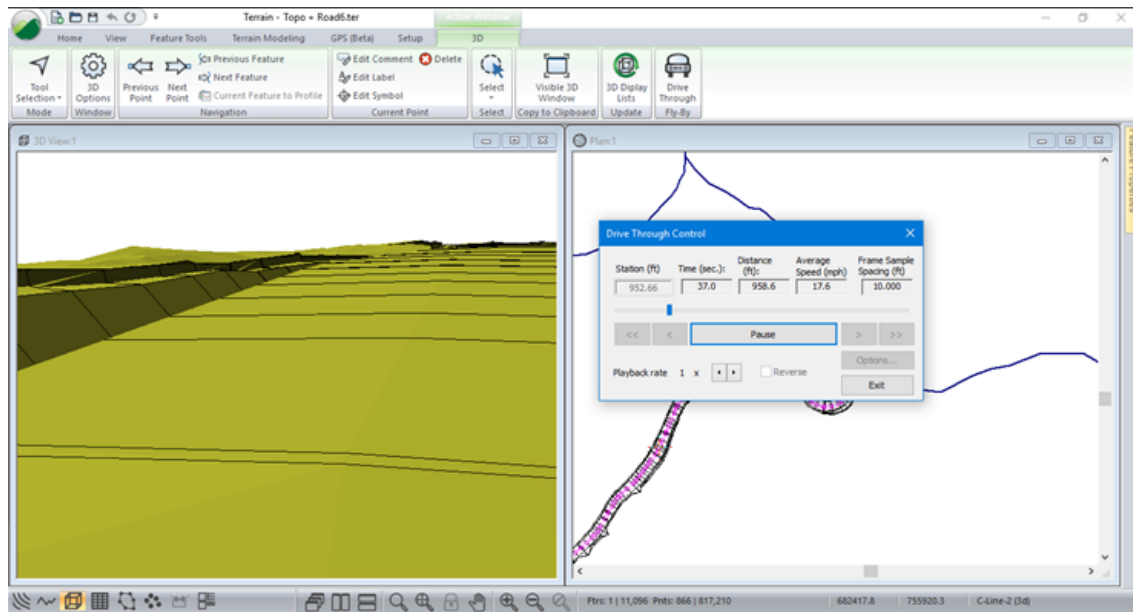

Figure 23-9: Drive Through/Fly By Sample
7. Press *Play* to begin the drive through, a sample of which can be seen below in Figure 23-9.